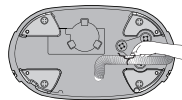

Fig. 1
- Untie the Drain Hose from the back panel of the washing machine and position the Drain Hose as shown on Fig. 1: Place the mat or any cloth on the floor before laying down the unit to protect it from scratches. (Remove or Cut the Tie Wires left in the back panel of the washing machine.)
- Untie the Drain Hose and the Tie Wires from the base (Fig. 1).